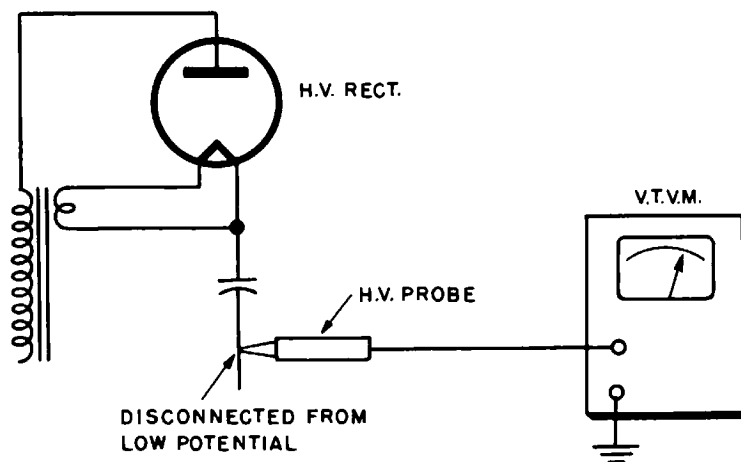

Fig. 3-22. Checking a high-voltage filter capacitor.
- a. Disconnect the end of the capacitor that is tied to low potential (Fig. 3-22).